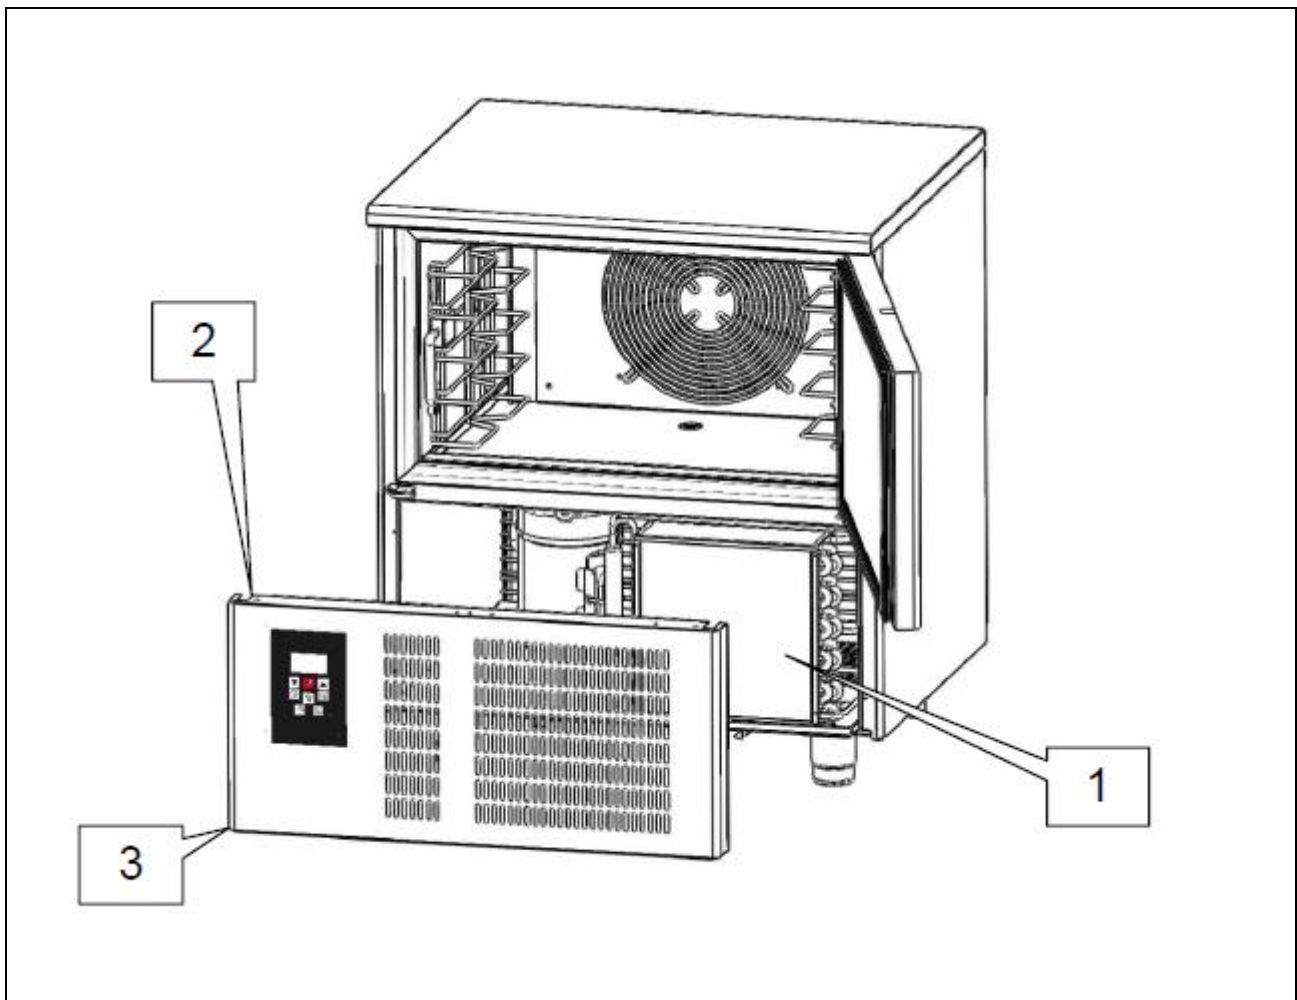

Fig. 9
For trouble-free efficient appliance operation, the air-cooled condenser (ref. 1 fig. 9) must be kept clean so that the air can circulate freely. Cleaning must be carried out once every 30 days. Remove the control panel by loosening the screws (ref. 2 and 3 fig. 9). Clean with a non-metallic brush to remove all the dust and fluff from the fins. It is advisable to use a vacuum cleaner so that dust does not float in the air. If there are greasy deposits, remove with a brush soaked in alcohol. **DO NOT SCRAPE THE SURFACES WITH POINTED OR ABRASIVE OBJECTS.**